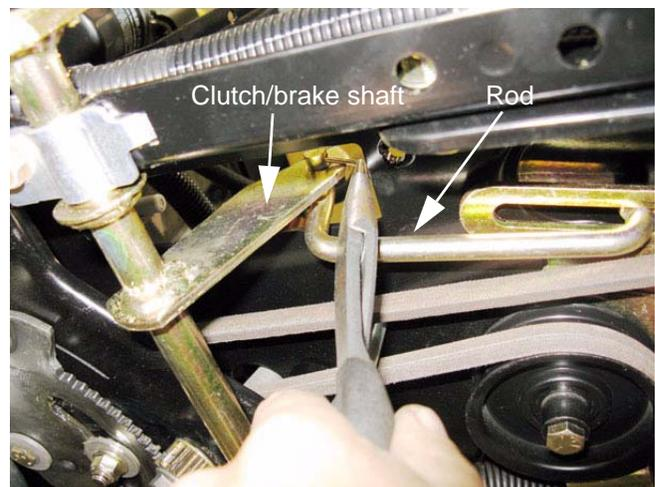

Figure 6.21
3. Disconnect the rod that joins the arm at the left side of the brake/clutch shaft to the drive belt tensioner pulley bracket. See Figure 6.21.